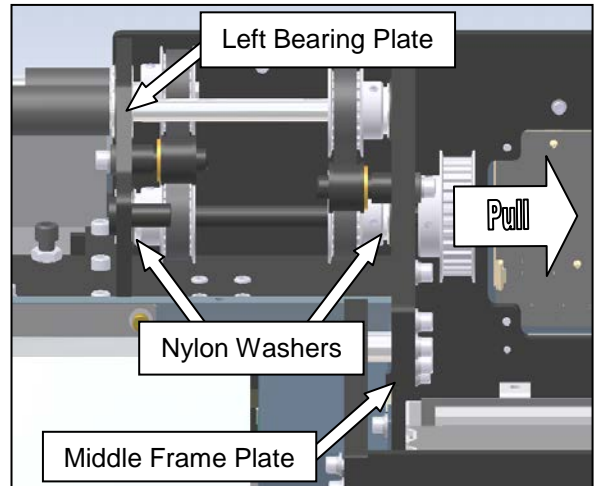

Figure 3-161. Removing the Transfer Shaft
5. Remove the transfer shaft by pulling outward on the driven motor pulley. While removing the transfer shaft, be careful not to misplace the nylon washer between the film feed drive pulley and the left bearing plate and the nylon washer between the middle frame plate and the platen roller drive pulley. These washers act as spacers for proper belt alignment (Figure 3-161).